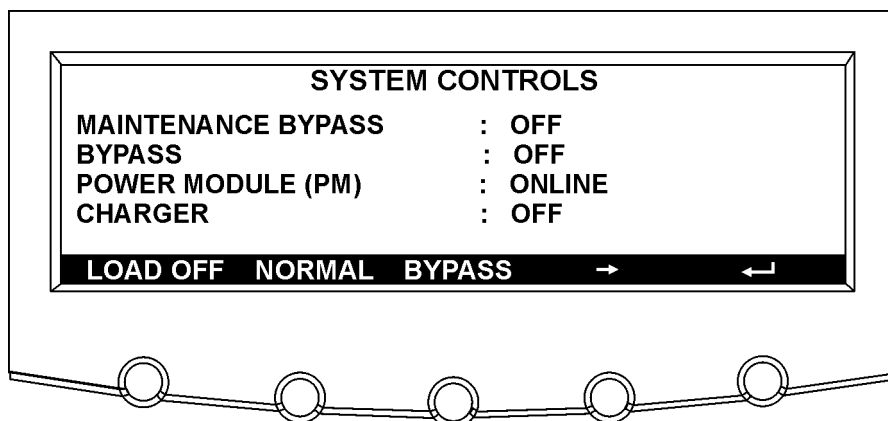
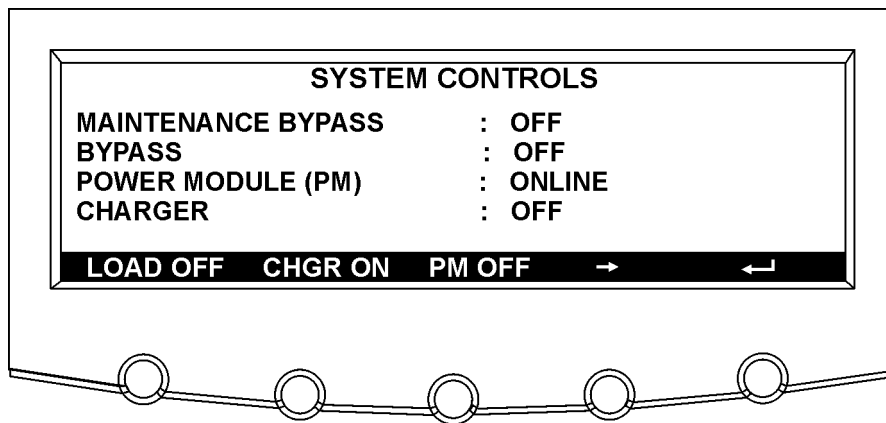

Figure 5-5. System Controls screen 1
Figure 5-6. System controls screen 2
Press the CONTROLS pushbutton on the main menu bar to display the System Controls screen. LOAD OFF, normal operation, transfer to bypass, charger control, and power module startup and shutdown functions are controlled from this screen. In addition, the screen displays the current status of the UPS and indicates whether the UPS is in Maintenance Bypass or Bypass, and the state of the power module (PM) and battery charger. Figure 5-5 and Figure 5-6 show the System Controls screens.